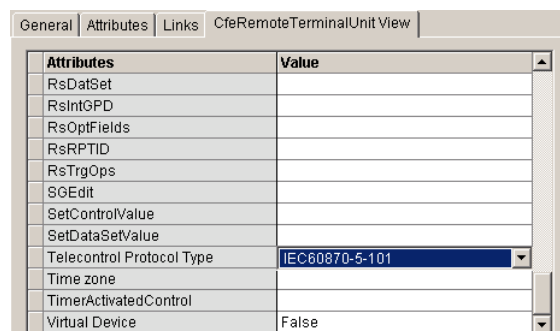

Figure 3-2.13: Attributes of the Instance Type "Cfe Remote Terminal Unit"
4. Select tab **Cfe Remote Terminal Unit View** and select the protocol of interest by changing the attribute 'Telecontrol Protocol Type' (Figure 3-2.13)